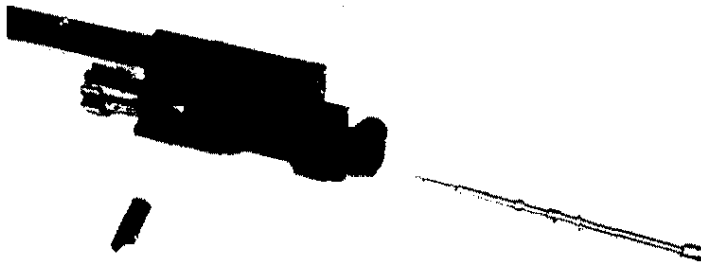

FIGURE 25. FIRING PIN AND CAM PIN REMOVED
- (2) Remove the firing pin from the bolt carrier. (Figure 25)
- (3) Remove the cam pin from the bolt. (Figure 25 and 26)
- (4) Remove the bolt from the bolt carrier.